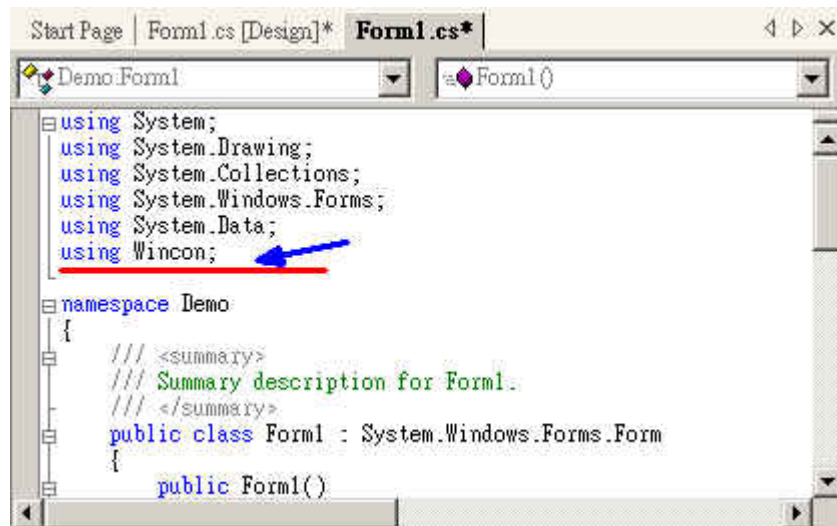

Fig. 5-2-9b
- (2b.) In the C#.NET development tool, insert the **“Using Wincon;”** into the command line after **“using System.Data;”** as shown in following figure 5-2-9b.